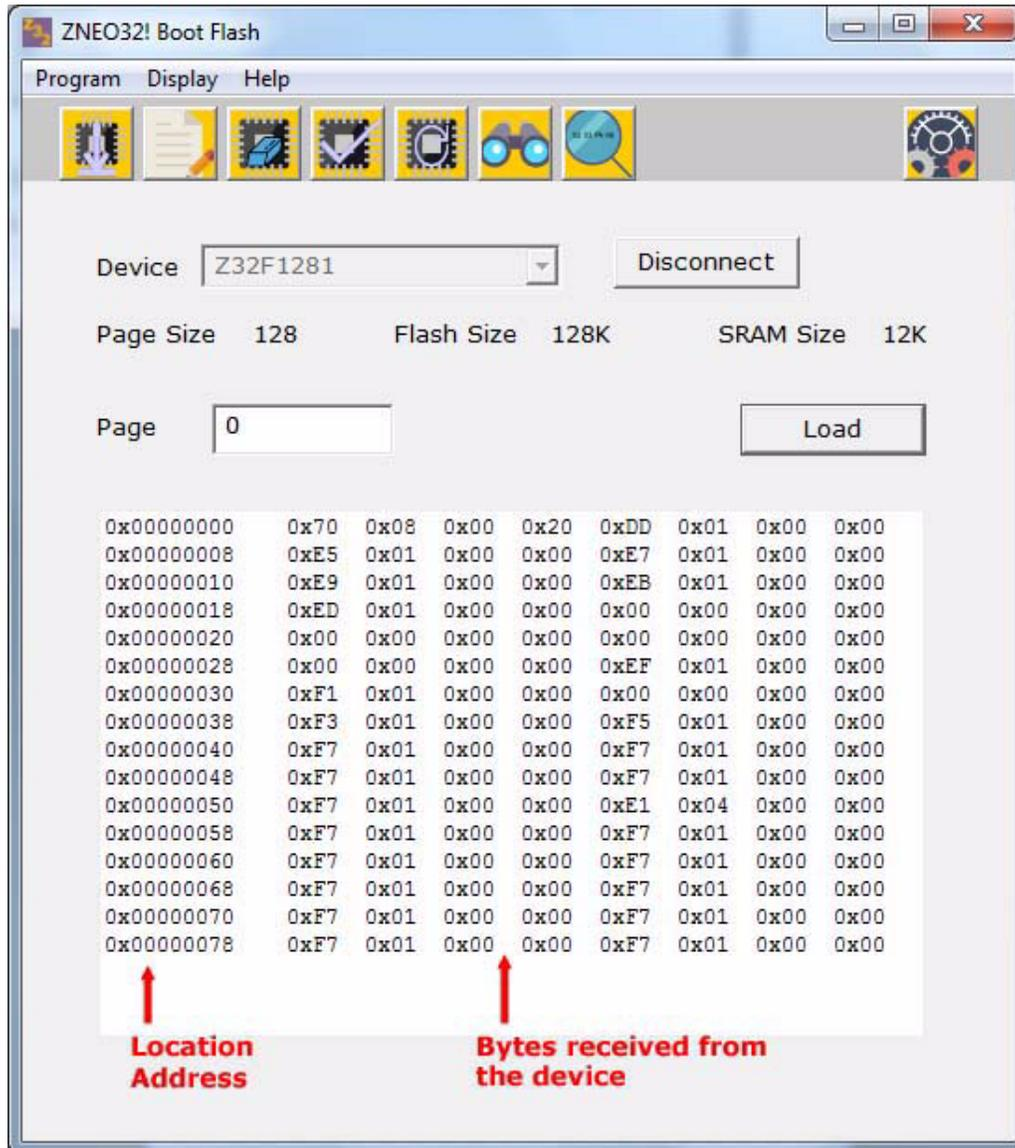

Figure 27. Page Displayed
2. The system retrieves the data from the device and displays the bytes with the address location, as shown in Figure 27.